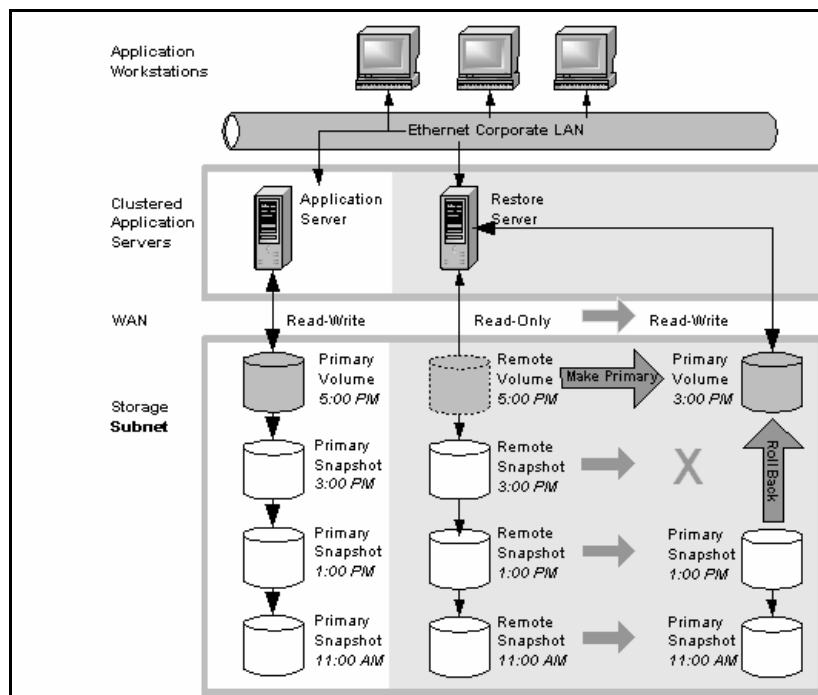

Figure 268. Non-destructive Rollback from the Remote Snapshot
- To roll back the remote snapshot, you must first make the remote volume into a primary volume. This will stop scheduled creation of remote snapshots, which may jeopardize your high availability, disaster recovery, or routine backup strategies. Figure 268 shows rollback of the remote snapshot.